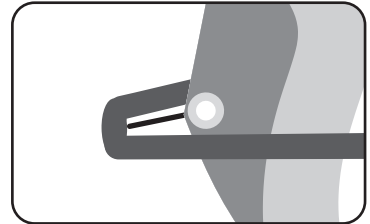

Fig. 3: Set the boom length to the outhaul cord
- c) Gently pull on the outhaul cord and set your boom to the end of the cord (fig. 3).